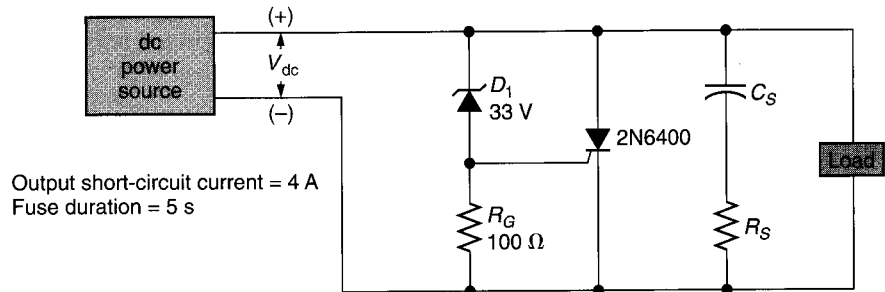

FIGURE 20.50
19. The spec sheet for the SCR in Figure 20.50 is given in Figure 20.11. The output short-circuit current for the dc power supply is 4 A and will remain at that level until its primary fuse blows. For the circuit, determine the following: